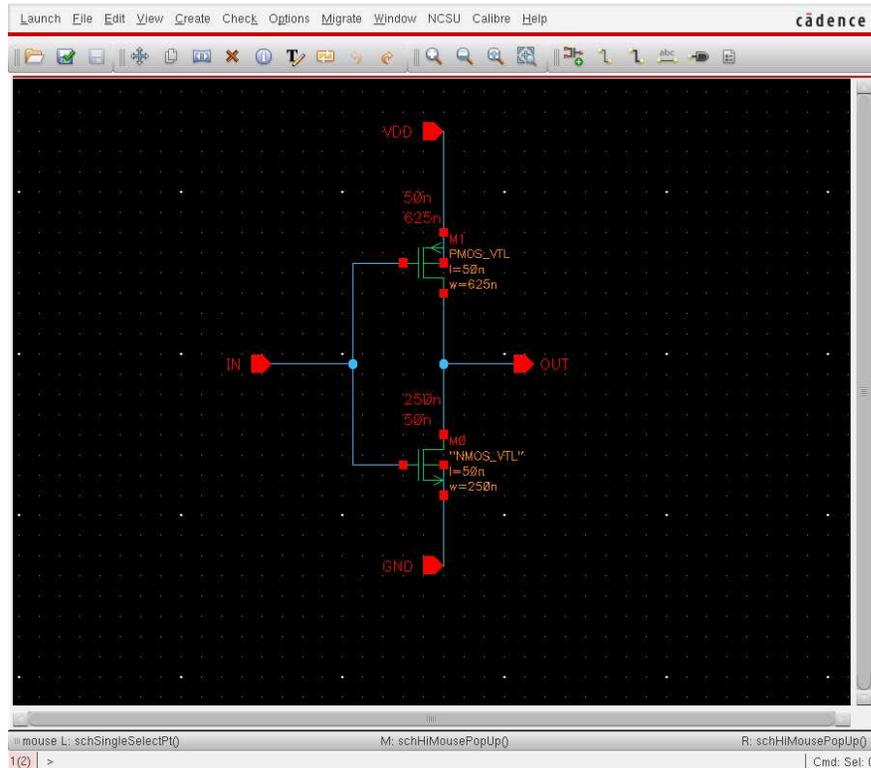

Figure 2: Schematic of the inverter.
- Pins are used to create accessibly to the nodes inside the schematic that we need after creating the symbol. To add a pin, press “P”. In the newly opened window, write “VDD” to be the pin name. Choose the direction of VDD to be input. Add “GND” and “In” port in the same way. For the pin “Out” choose the direction to be output. The final Schematic should look like figure 2.